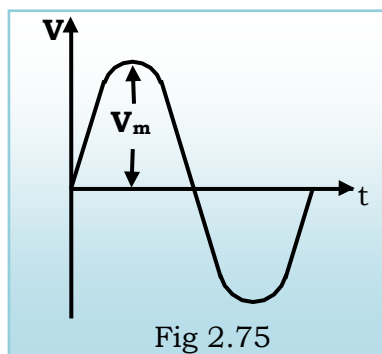

Fig 2.75
**Maximum value ( $V_m$  or  $I_m$ ) or peak value ( $V_p$  or  $I_p$ ) of AC:** It is the maximum amplitude of voltage or current attained by AC waveform in one half cycle as shown in fig 2.75.